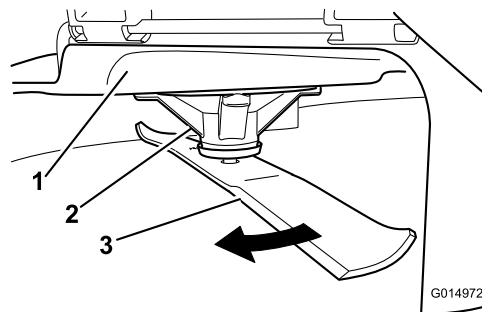

Figure 49
2. While wearing thickly padded gloves, or other adequate hand protection, slowly rotate the blade into a position that allows you to measure the distance between the cutting edge and the level surface the machine is on (Figure 49).